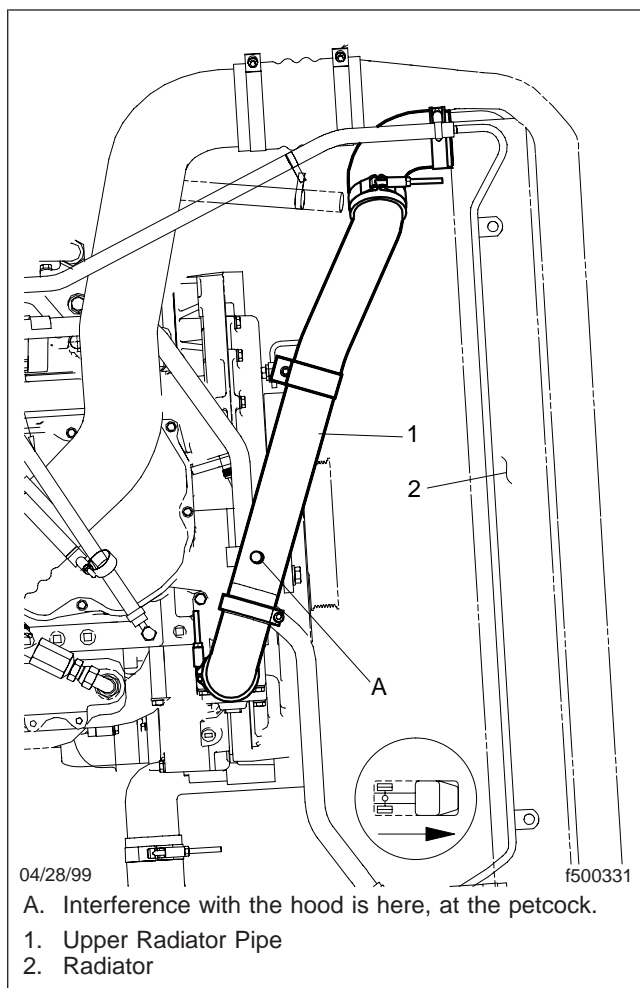
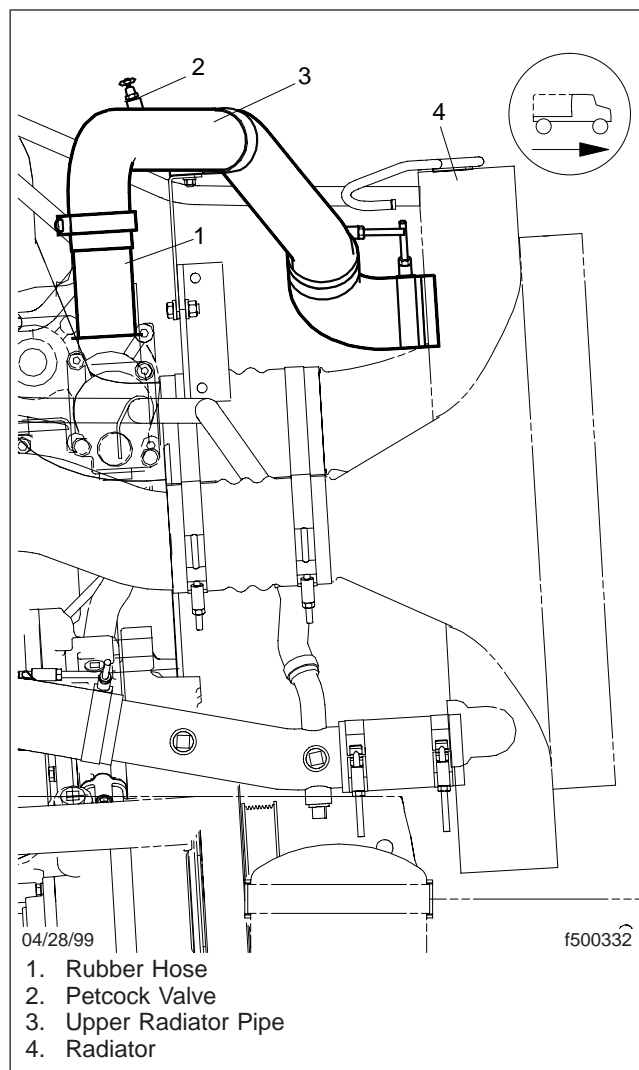

Fig. 1, Upper Radiator Pipe Location (top view)
Fig. 2, Upper Radiator Pipe Location (side view)
Business Class FL112 vehicles equipped with a Caterpillar C10 or C12 engine, and built before November 13, 1998, may have a problem with interference between the underside of the hood and the petcock valve on the upper radiator pipe. See **Fig. 1** and **Fig. 2**.
- 4.1 Loosen the clamp holding the rubber hose to the end of the radiator pipe. See Fig. 2.